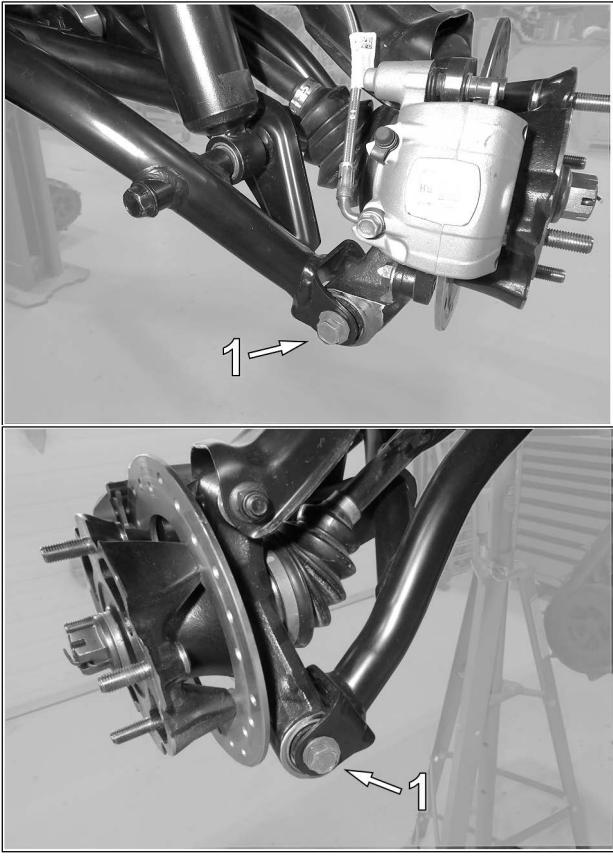

Fig. 4
4. Loosen and remove both flange bolts (**1**) linking the lower suspension arm to the wheel hub. See Fig. 4